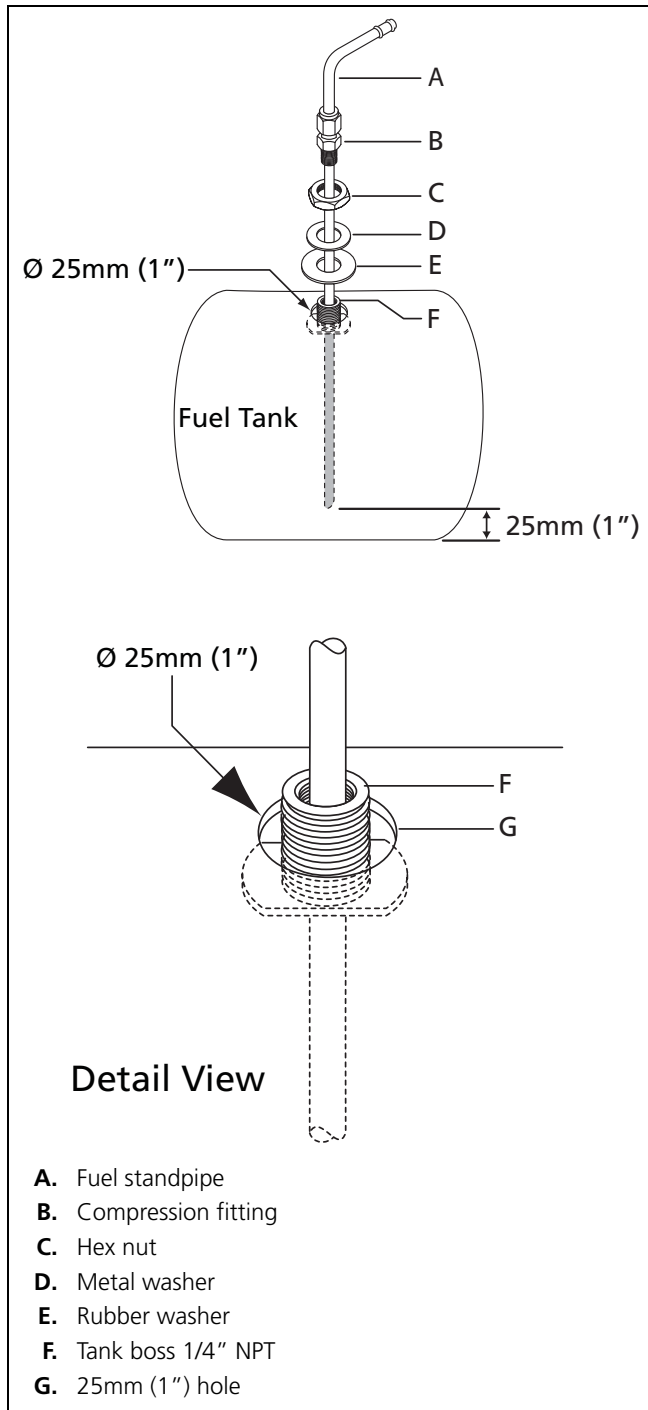
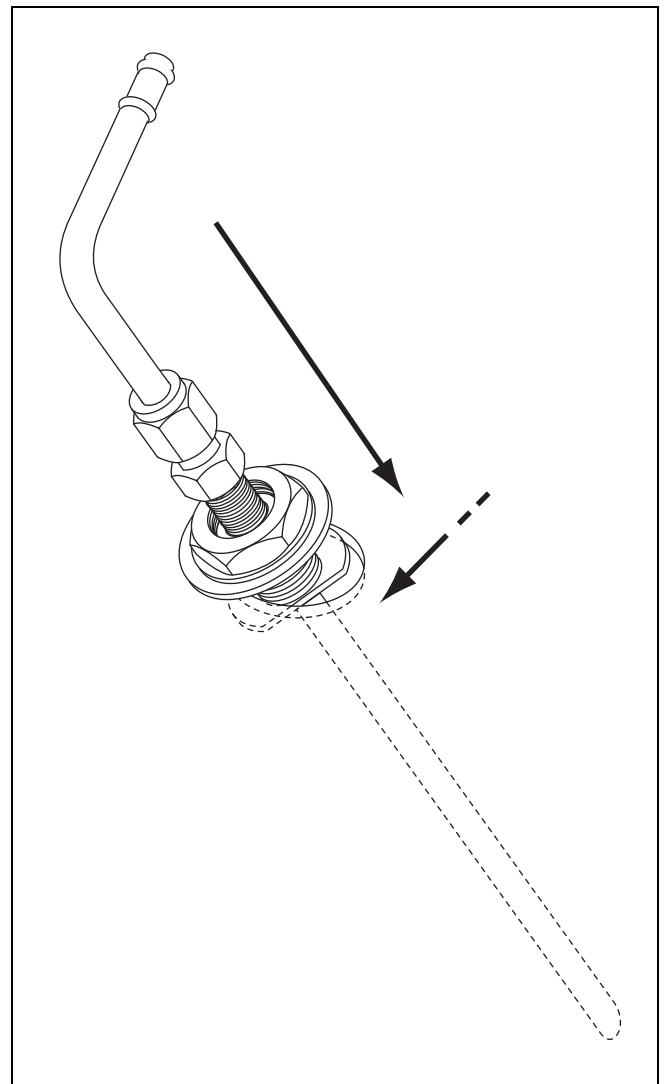

Figure 17: Webasto fuel standpipe
Figure 18: Standpipe installation - illustration 1
1. bore a 25mm (1") hole through top of fuel tank (item G, Figure 17).
4. loosely assemble items C, D, E, and F (Figure 17).
6. slide standpipe into hole at angle. Slip one shoulder of item F, Figure 17 inside the hole as shown in Figure 18.